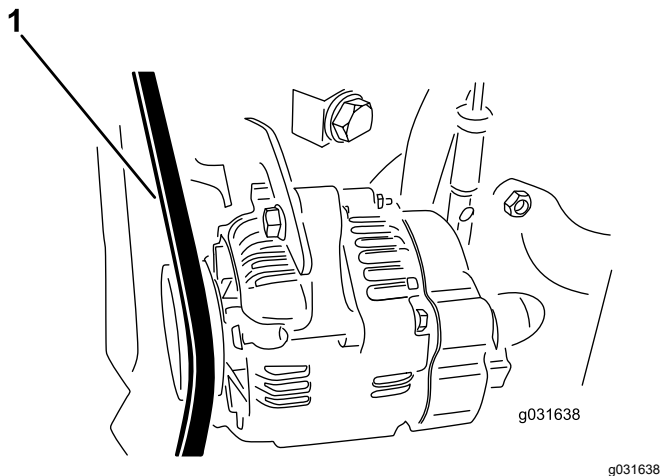

Figure 62
2. Apply 30 N (22 in-lb) of force to the alternator belt, midway between the pulleys (Figure 62).